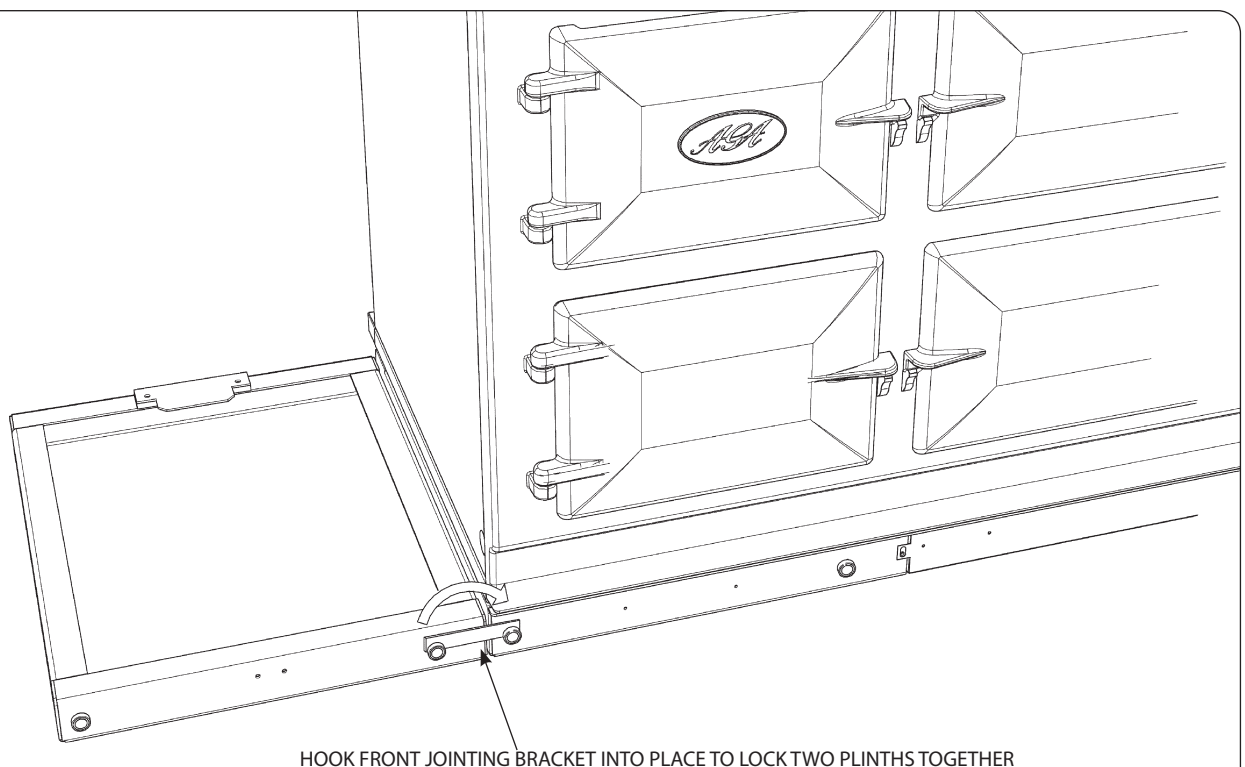

Fig. 12.6
5. Front jointing bracket can now be hooked into place over the two pot magnets. This will latch the two plinths together. (**Fig. 12.6**)